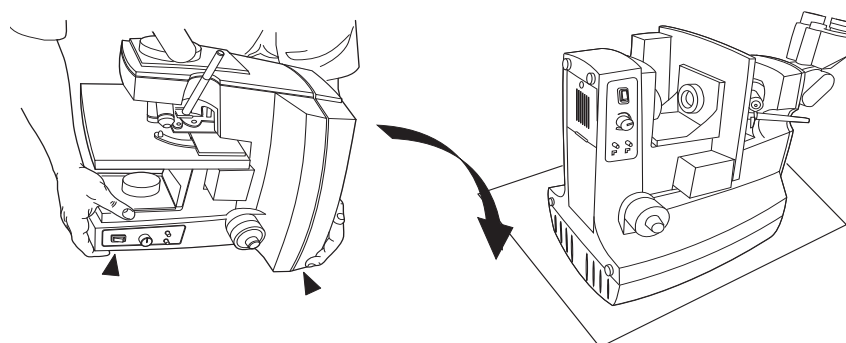

Figure 5-3 Position the Scope On Its Back Cover
4. Grasping the scope by the bottom of the housing, gently tilt the microscope over onto its back cover. (Refer to Figure 5-3.) A soft material, (such as paper, cloth or cardboard) may be placed under the microscope to avoid scratching it or the desk top.